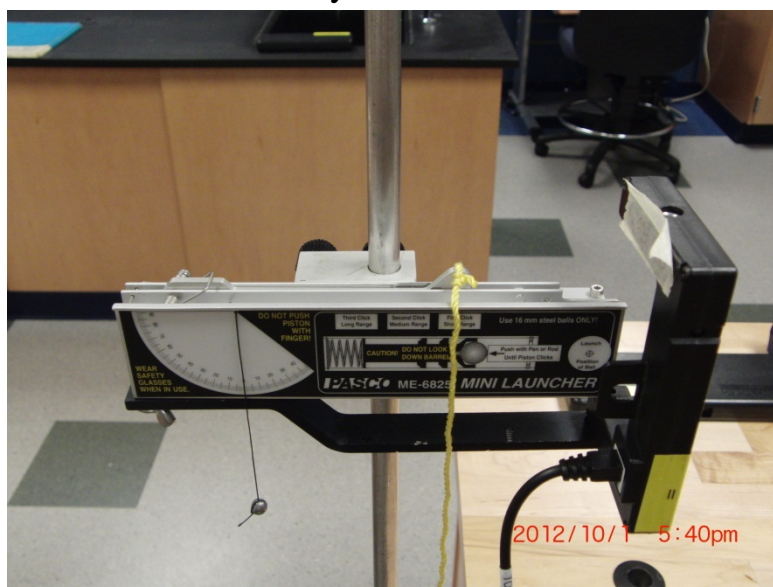

Figure 2: Launcher attached horizontally
2. Attach the launcher to the rod at the end of the table, as shown in Figure 2. Set the initial height of the launcher to 50 cm and set the initial angle of the launcher to zero. Be sure the launch point, indicated on the launcher, is directly above the edge of the table. Use the protractor on the side to make sure the launcher is set horizontally.